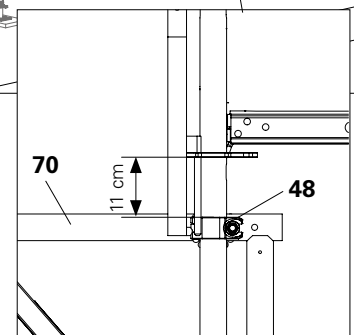

Fig. D5.02a
- Installation height: upper edge of the standard coupler to the lower edge of the rosette of the Easy Standard: 11 cm. (Fig. D5.02a)